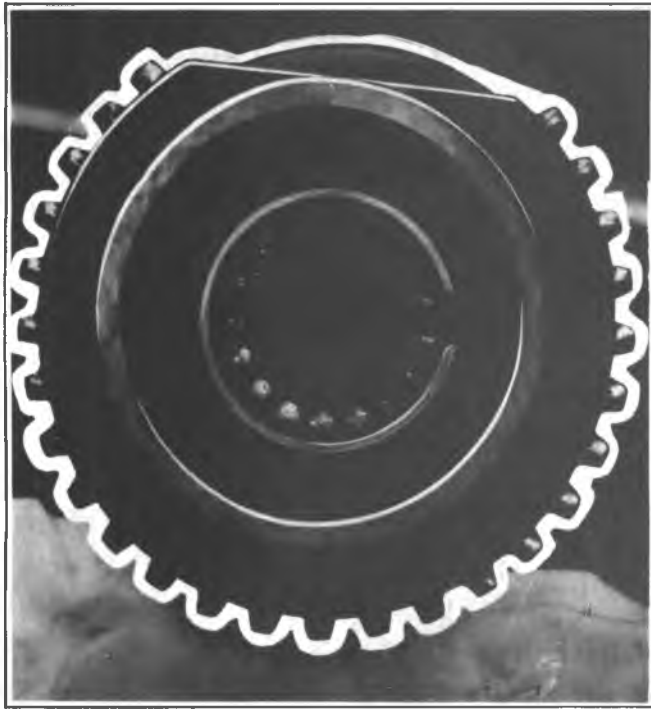

Fig. 7B-12L—Pilot Roller Bearing Installed
8. Index synchronizer ring key slots with synchronizer assembly keys and press 3rd and 4th synchronizer assembly onto mainshaft using Tool J-22875 and against 3rd speed gear bushing thrust face toward 3rd speed gear (Fig. 7B-19L). Retain synchronizer assembly with snap ring.